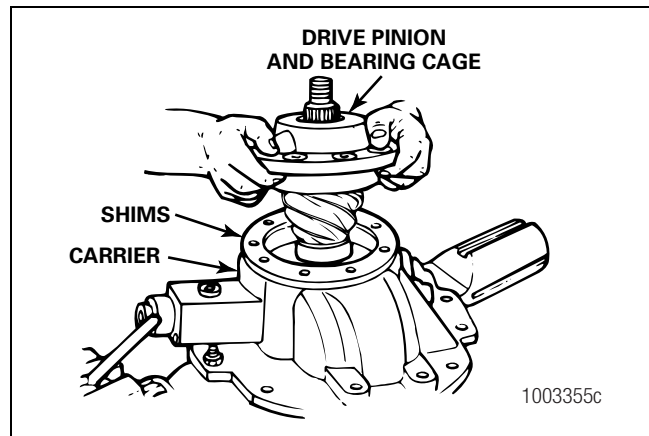

Figure 5.23
5. Install the drive pinion and bearing cage into the carrier. If necessary, use a rubber, plastic or leather mallet to hit the assembly into position. Figure 5.23.